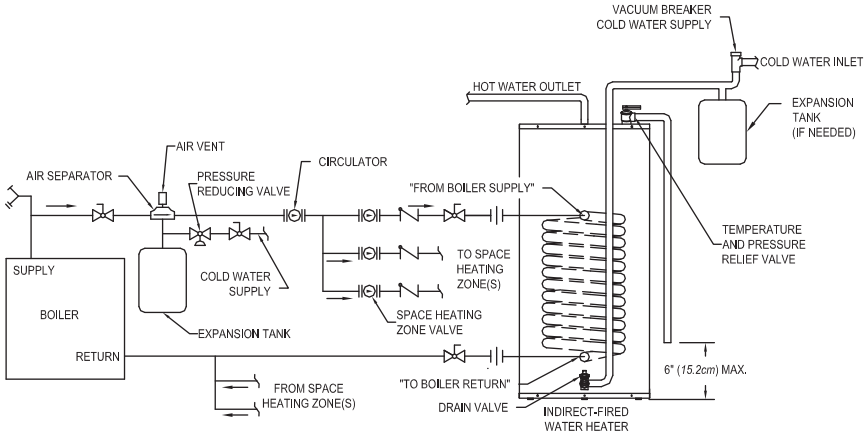

Figure 4 - Water Boiler Piping with Circulators
2. For a space heating system that utilizes **CIRCULATORS**, refer to Figure 4. The indirect-fired water heater connection labeled “FROM BOILER SUPPLY” should be piped to the boiler supply piping. Mount the circulator making sure the flow arrow points toward the water heater. The use of shut-off valves and unions are recommended for future service convenience. The use of an air separator and vent is recommended to eliminate air in the system. Pipe and fittings between the boiler and indirect-fired water heater must be $\frac{3}{4}$ ” diameter or larger.